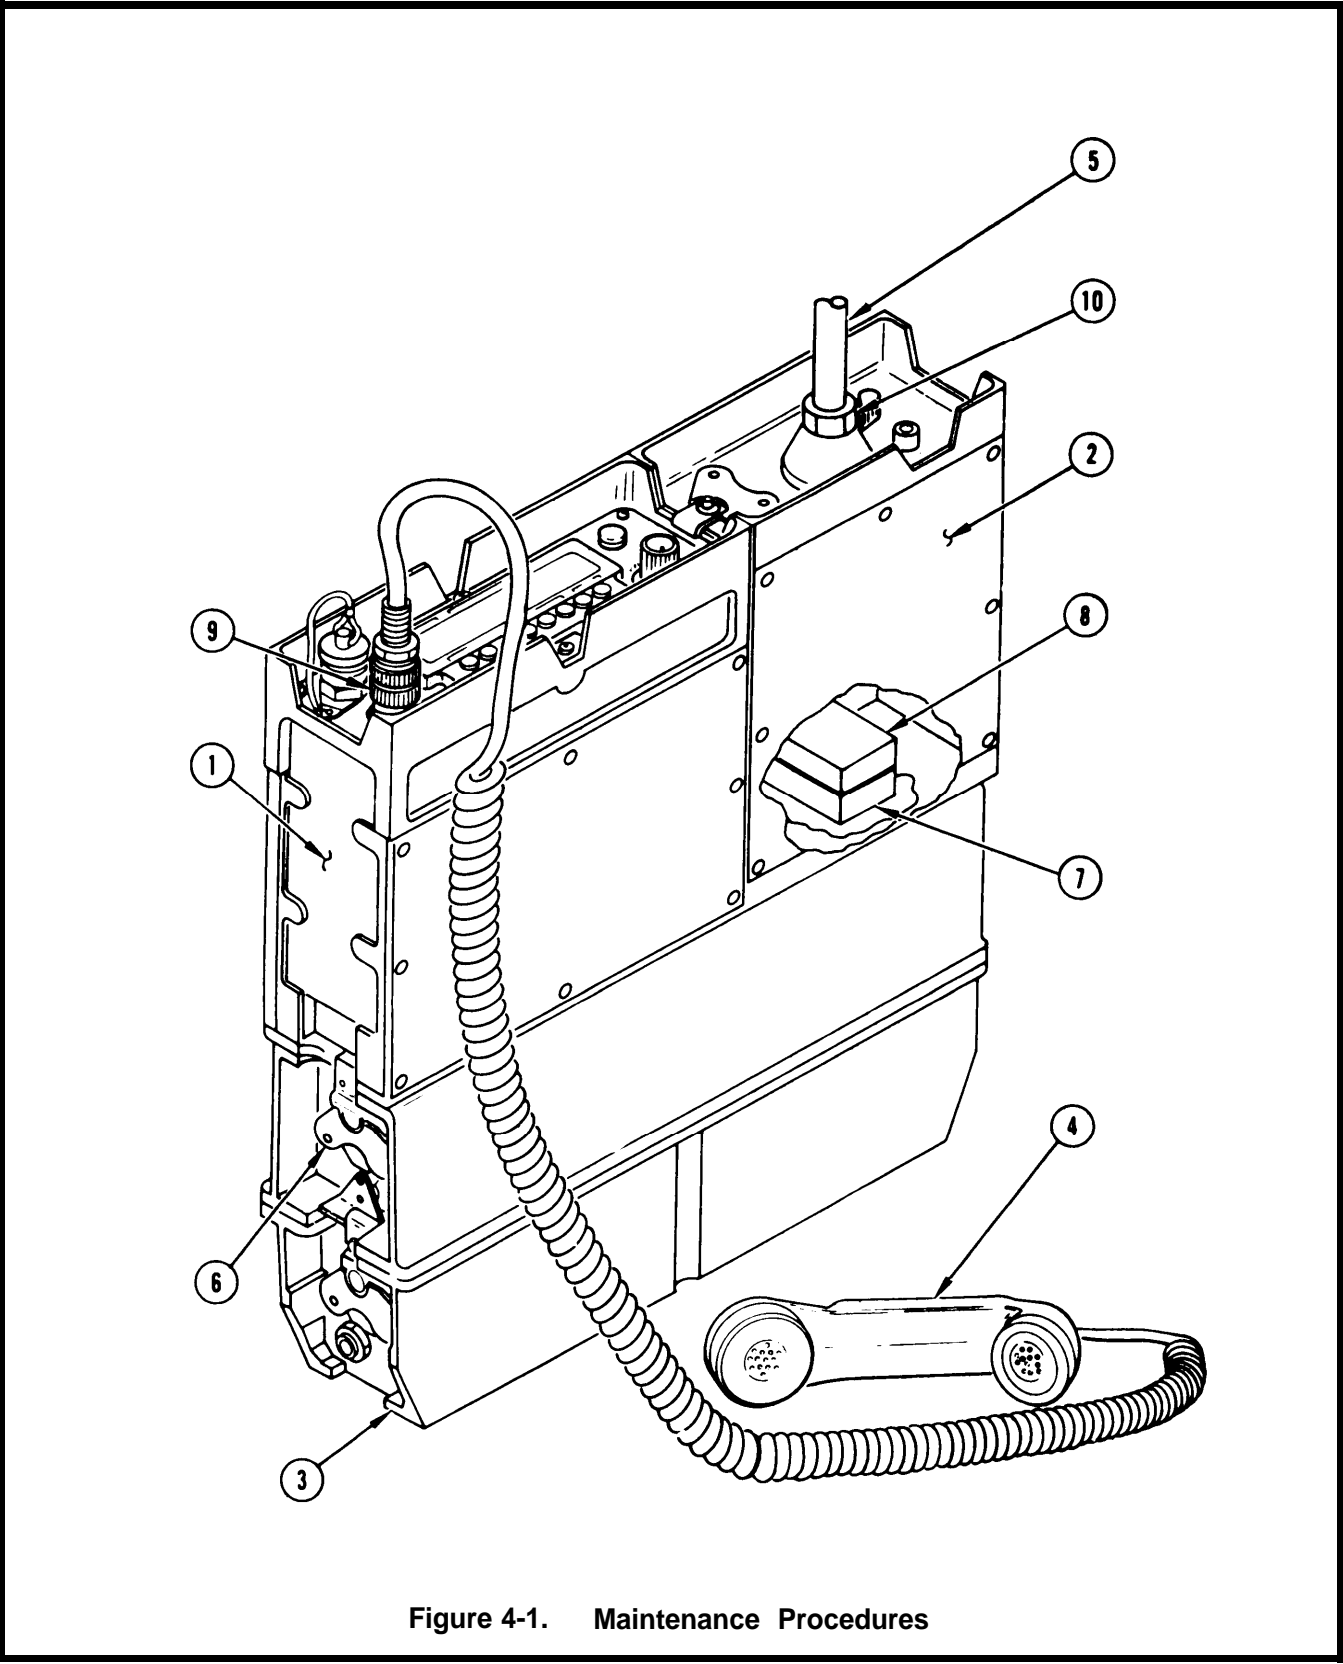

Figure 4-1. Maintenance Procedures
**MAINTENANCE PROCEDURES (1 of 4), fig 4-1**